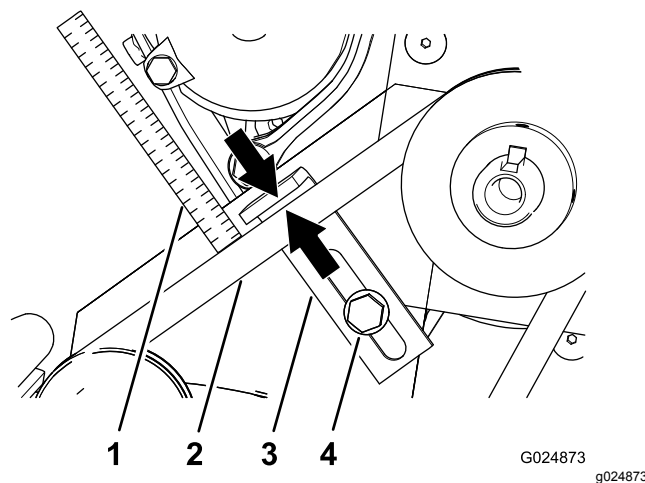

Figure 26
Note: If the air gap is larger or smaller than 6 mm (1/4 inch), adjust the belt guide (Figure 26); refer to Adjusting the Belt Guide \(page 21\).
3. Grasp the barrel with 1 hand and lift the cable housing lightly (Figure 26).
2. Measure the air gap between the belt and the belt guide (Figure 26).
1. Loosen the hex-flange head bolt that secures the belt guide to the engine plate (Figure 26).
2. While keeping the top of the belt guide parallel to the belt, move the belt guide toward or away from the belt until the air gap is correct (Figure 26).
3. Tighten the hex-flange head bolt that secures the belt guide to the engine plate (Figure 26).